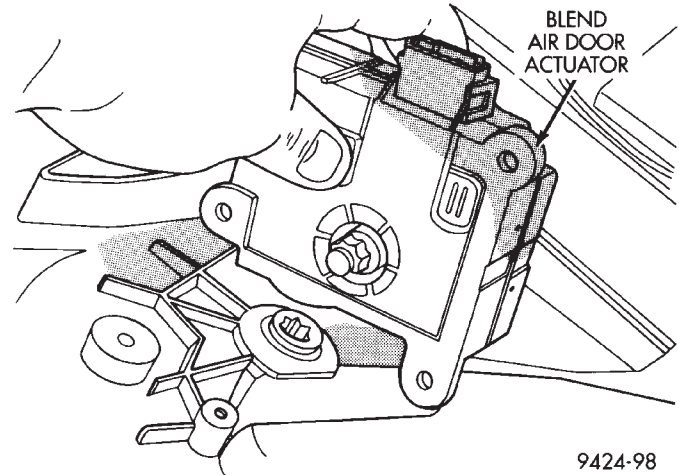
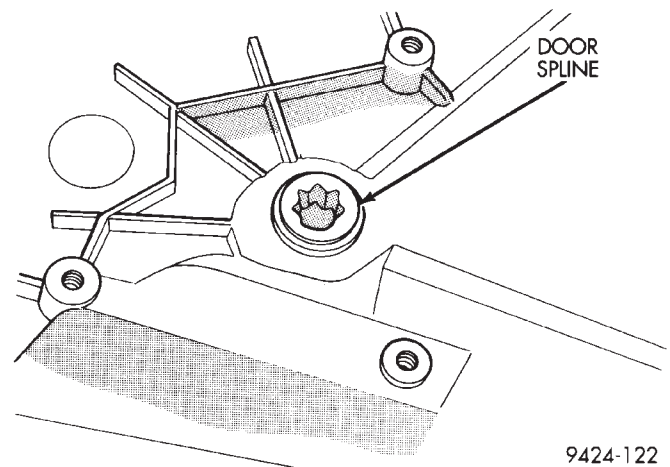

*Fig. 51 Blend-Air Door Actuator*
*Fig. 52 Blend-Air Door Spline*
(1) Remove left and right underpanel silencer/ducts.
(2) Remove two screws from actuator which are accessible from the right side of center stack.
(3) Remove one screw from actuator on left side.
(4) Pull actuator straight down from shaft and disconnect electrical connection (Fig. 51). Upon removal, note the shaft position of the actuator, because the shaft on this motor is keyed (Fig. 52). When installing new actuator, its shaft must be positioned in the same location.